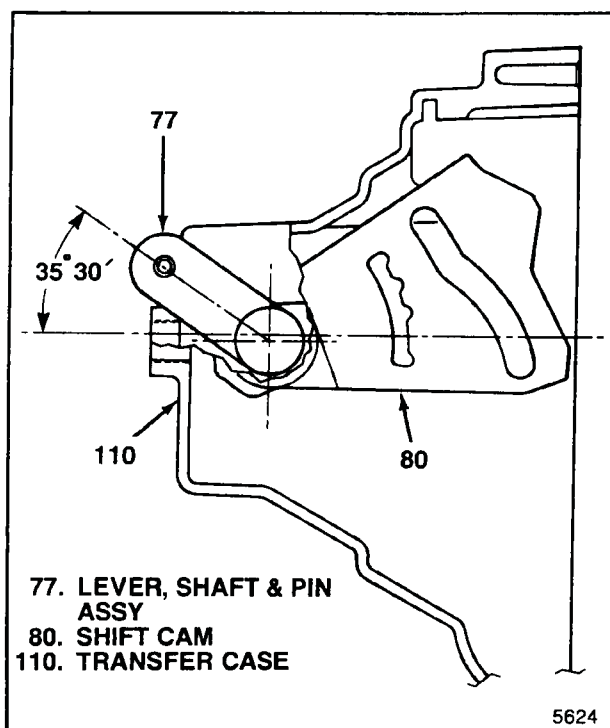

Figure 5-11. Cam and Lever Positions
a. Lubricate shaft and install lever, shaft and pin assembly (77). Start splined end of shaft into transfer case (110) until end is flush with inside of case.
b. Start setscrew (75) into shift cam (80). Insert shift cam into transfer case. Position both cam and lever shaft and pin assembly (77) as shown in figure 5-11, align cam and shaft splines and install lever, shaft and pin assembly fully into cam.
c. Install klip ring (76) in groove near inside end of shaft on lever, shaft and pin assembly (77) to retain shift cam (80).
d. Tighten setscrew (75) to 5-7 lb-ft (7.0-9.5 Nm) through hole in transfer case (110) for 4WD indicator switch (74).
e. Install assist bushing (79) on end of assist spring (78) and install in groove in shift cam (80) closest to lever, shaft and pin assembly (77). Install other end of spring through case bracket notch and into hole in transfer case (110).
f. Install 4WD indicator switch (74) and torque to 25-35 lb-ft (34-47 Nm)